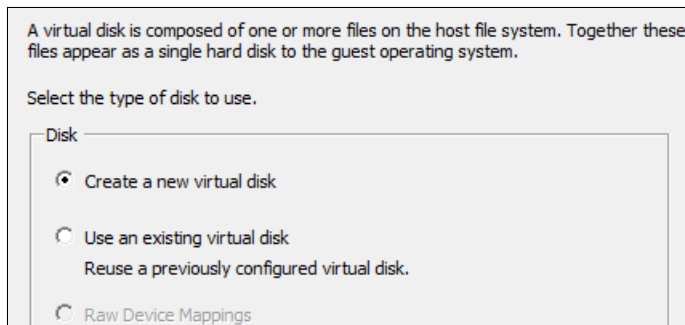

Figure 7-28 Create virtual disk
4. Select **Create a new virtual disk** as shown in Figure 7-28.